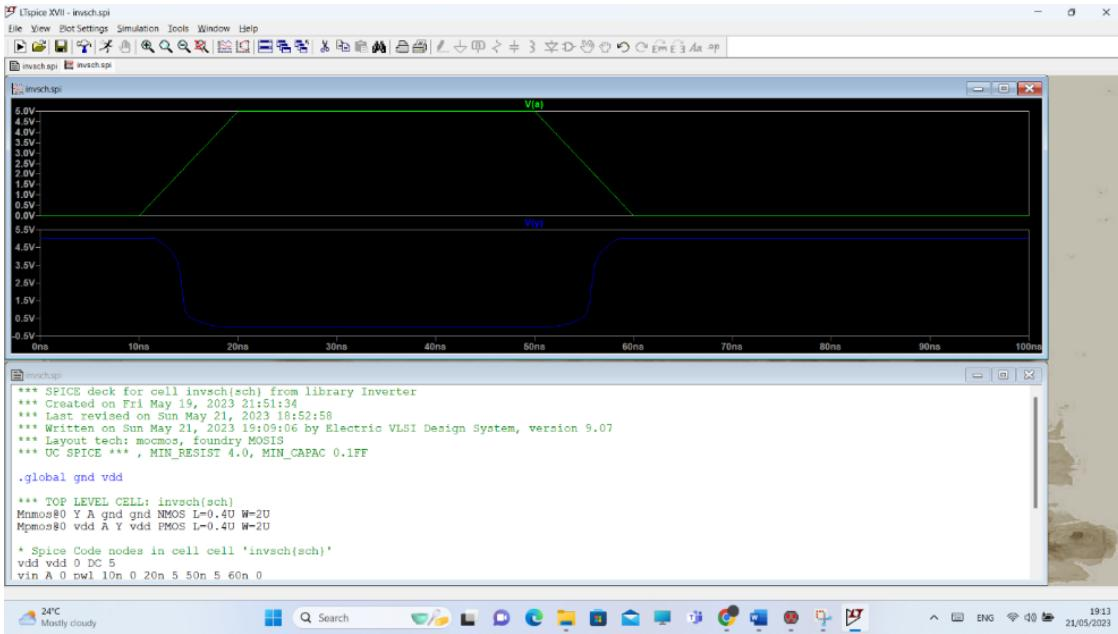

Figure 1.27: The final result.
19. You will see the following window (see Figure 1.27):